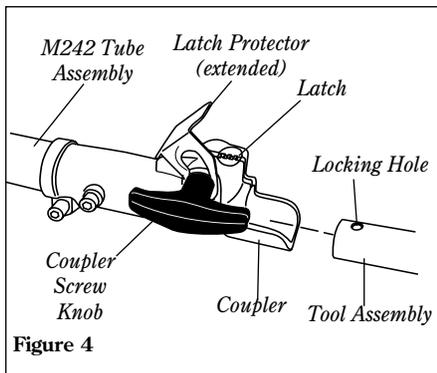

Figure 4
1. Place the M242 Multipurpose Tool Carrier and the Tool Assembly on a clean, flat surface so that both assemblies fit end to end. The M242 assembly should be facing up, and the tool assembly should be positioned with the locking hole in the tube end facing up. See Figure 4.
3. Insert the upper tube assembly into the coupler, with the tool decal facing up, until the line of the decal is flush with the end of the coupler. Twist the tool back and forth until you are sure it snaps in place by the coupler latch. See Figure 4.